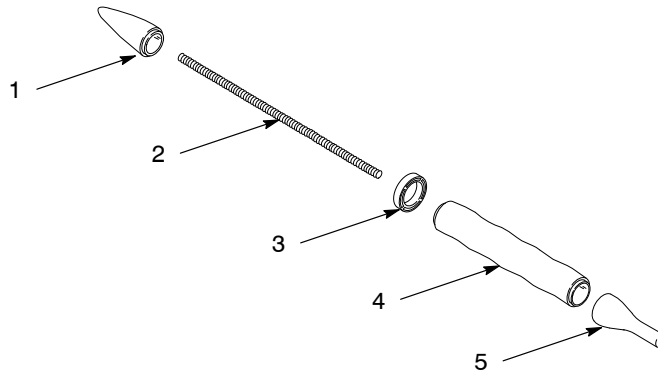

Figure 6-8 Inner Wear Sleeve Assembly
3. See Figure 6-8. Unscrew the inlet distributor (1) from the threaded rod (2) and remove the inlet and outlet (5) distributors and threaded rod from the inner wear sleeve (4). Discard the inner wear sleeve and positioning ring (3).
1. See Figure 6-8. Slide the new positioning ring (3) onto one end of the new inner wear sleeve (4).